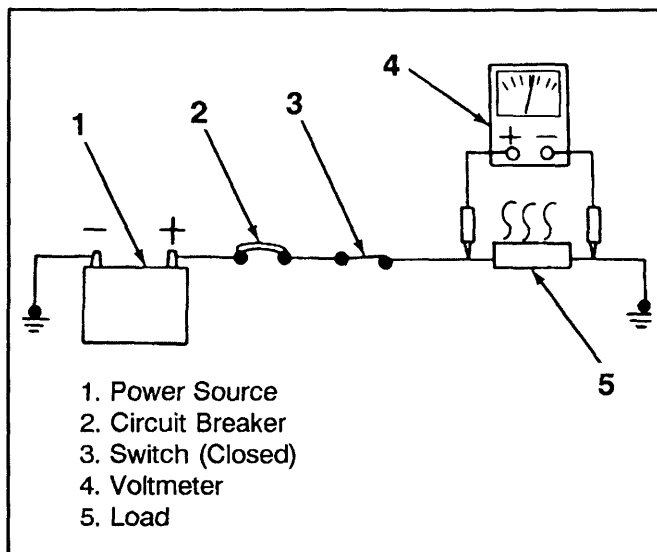

Figure 25 — Voltmeter
**VOLTMETER (Figures 25 and 26)** – The voltmeter (properly observed) will give the technician more information than the ammeter, ohmmeter, and test lamp combined. Its application for diagnosis here is to measure the electrical pressure (voltage) drop in a resistance circuit. Voltage drop is a reduction or “using up” of the voltage to push electricity through a resistance. It can be compared to the pressure of water flowing through a metering valve.